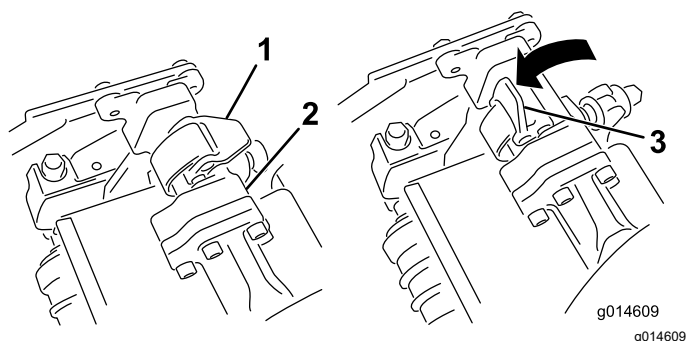
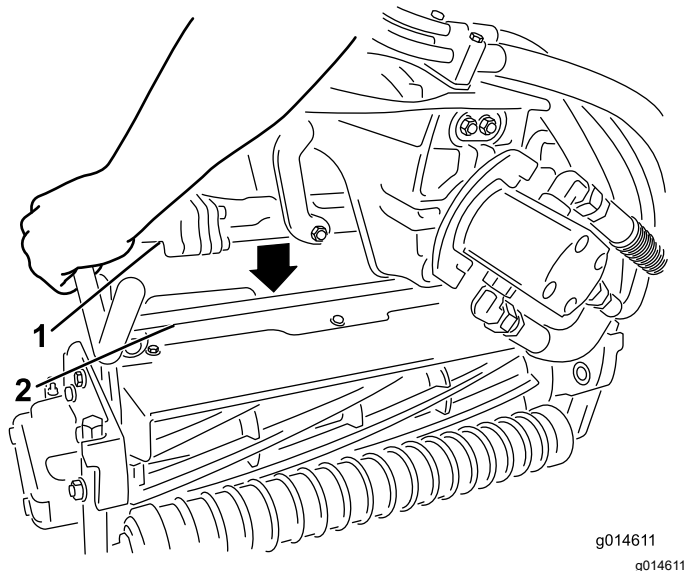

Figure 54
Figure 55
3. With the latches on the suspension-arm bar pointing up (i.e., open) (Figure 54), push the suspension arm down so that the bar fits over the bar across the top of the cutting unit (Figure 55).
4. Close the latches down and around the cutting-unit bar and lock them in place (Figure 54).
4. Open the latches on the suspension-arm bar of the cutting unit you are removing (Figure 54).